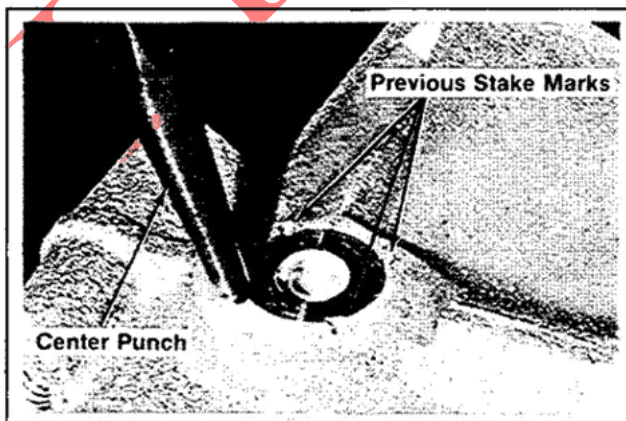

Figure 11-20. Restaking Camshaft Bore Plug.
8. Locate a center punch in the previous stake marks surrounding the camshaft bore plug. Restake the plug securely in place. Refer to Figure 11-20.